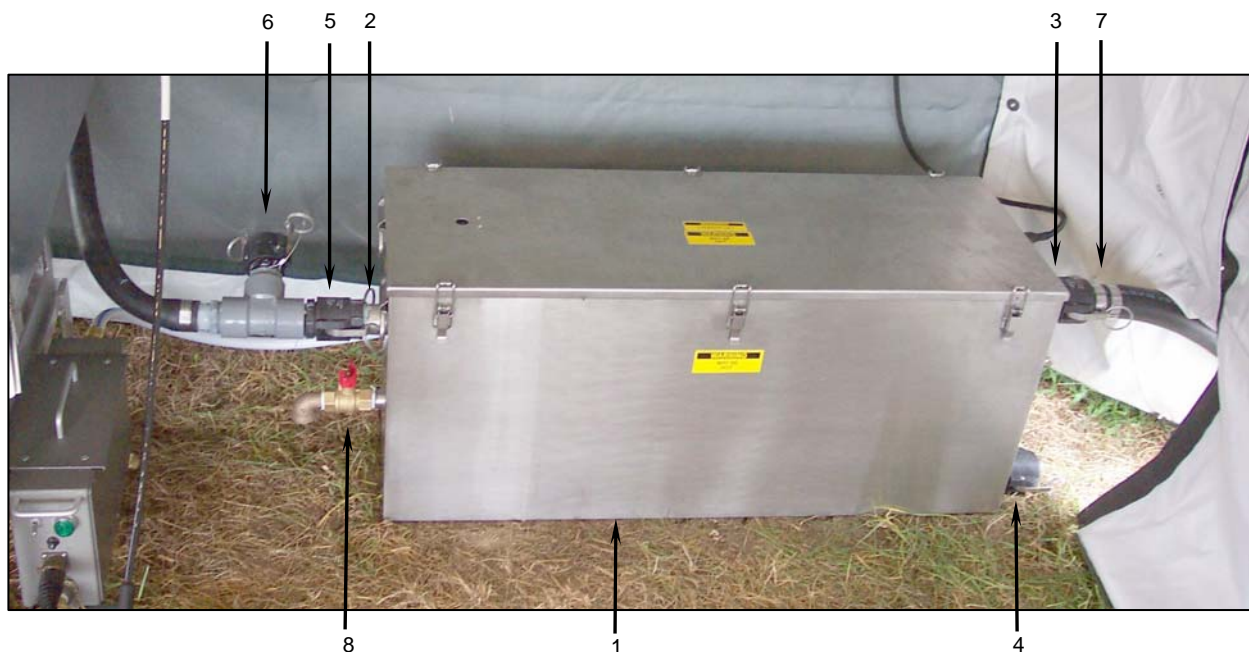

Figure 15. Grease Separator Installation.
- a. Place the grease separator (**Figure 15, Item 1**) on the ground to the right of the sink assemblies. Align the grease separator parallel with the back of the tent. The grease separator inlet (**Figure 15, Item 2**) should face the sinks. The grease separator outlets (**Figure 15, Items 3**) and (**Figure 15, Item 4**) should be near the tent door.
- b. Connect the sink drain hose assembly coupler (**Figure 15, Item 5**) to the grease separator inlet (**Figure 15, Item 2**) and close the coupler.
- c. If using the FSC with a Containerized Kitchen (CK), remove the sink drain hose tee cap (**Figure 15, Item 6**), connect the CK drain hose to the tee, and close the CK drain hose coupler.
- d. Connect one end of the 50-ft grease separator discharge hose (**Figure 15, Item 7**) to the upper grease separator outlet (**Figure 15, Item 3**) and close the coupler. Connect the other end of the discharge hose to an authorized wastewater reception facility and close the coupler.
- e. Make sure the outlet cap is secured to the lower grease separator outlet (**Figure 15, Item 4**).
- f. Make sure grease removal valve (**Figure 15, Item 8**) is closed (handle turned clockwise, perpendicular to valve).